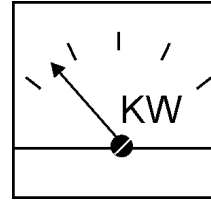

Figure 48. Kilowatt Meter
12. The wattmeter (Figure 48) will indicate zero watts with no load applied. When a load is applied, this meter will indicate the output power of the generator with respect to the applied load.